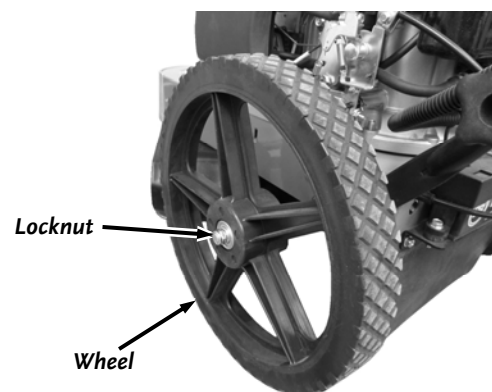

Figure 38
2. Loosen and remove the Locknut with the required Wrench (**Figure 38**).